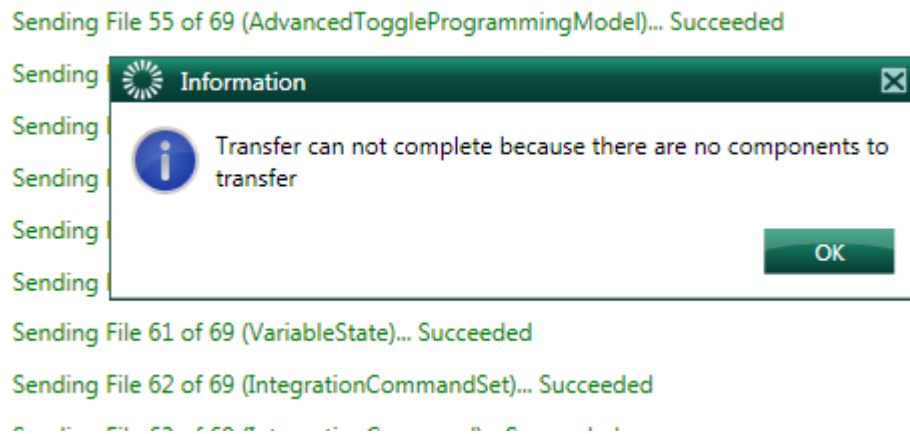

Figure 1
- 4) Transfer database to Processor(s) (Note: Due to lack of activated devices, transfer will not complete (see **Figure 1**) but all necessary data will still be moved to the processor to allow for XML extraction).